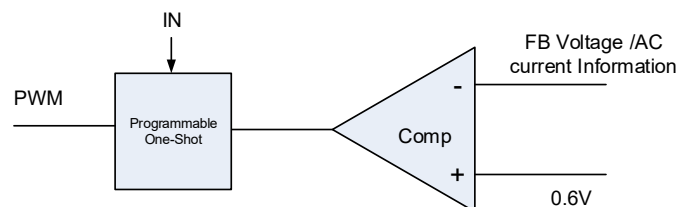

Figure 2. Simplified Control Schematic of AOZ2388QI
The simplified control schematic is shown in Figure 2. The high-side switch on-time is determined solely by an one-shot whose pulse width can be programmed by one external resistor and is inversely proportional to input voltage (IN). The one-shot is triggered when the internal 0.6V is higher than the combined information of FB voltage and the AC current information of inductor, which is processed and obtained through the sensed low-side MOSFET current once it turns-on. The added AC current information can help the stability of constant-on time control even with pure ceramic output capacitors, which have very low ESR. The AC current information has no DC offset, which does not cause offset with output load change, which is fundamentally different from other  $V^2$  constant-on time control schemes.